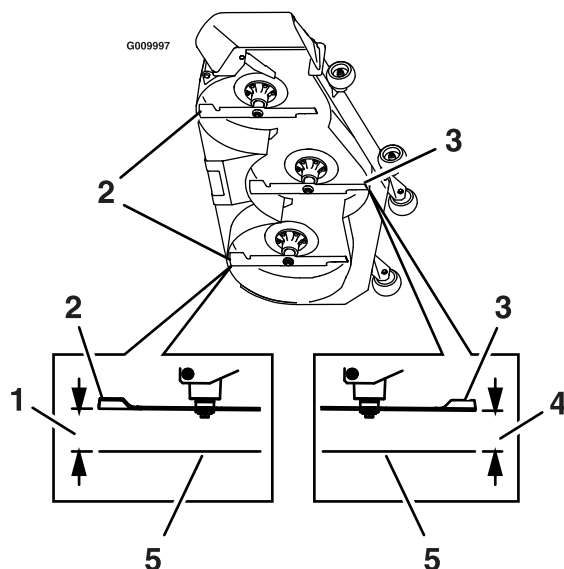

Figure 84
8. Measure from the level surface to the front tip of the center blade (Figure 84).